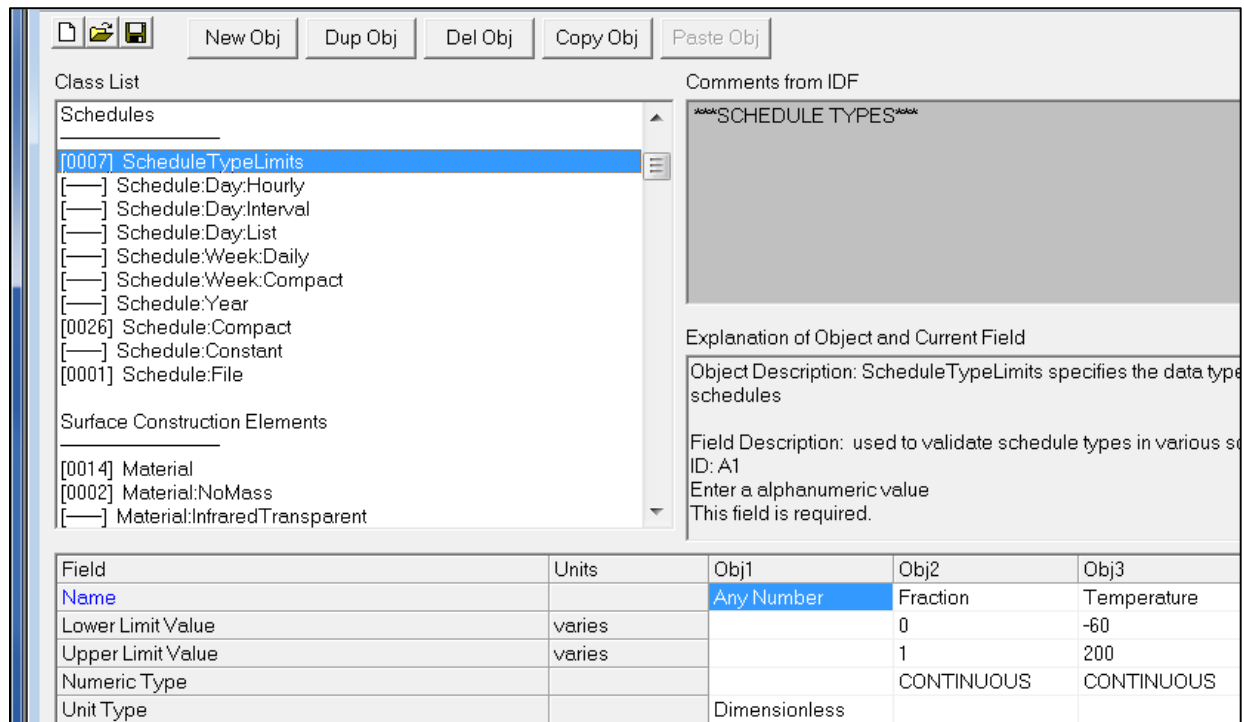

Figure 27. Creating new ScheduleTypeLimits object in EnergyPlus project file
- a. Scroll or use the Find function (Ctrl+F) to go to the ScheduleTypeLimits object (Figure 27). Press the “New Obj” button. In the new ScheduleTypeLimits object, input the following (the inputs are also in the partial .idf file):
- b. Scroll or use the Find function (Ctrl+F) to go to the Schedule:File object (Figure 27). Press the “New Obj” button. In the new Schedule:File object, input the following (the inputs are also in the partial .idf file):